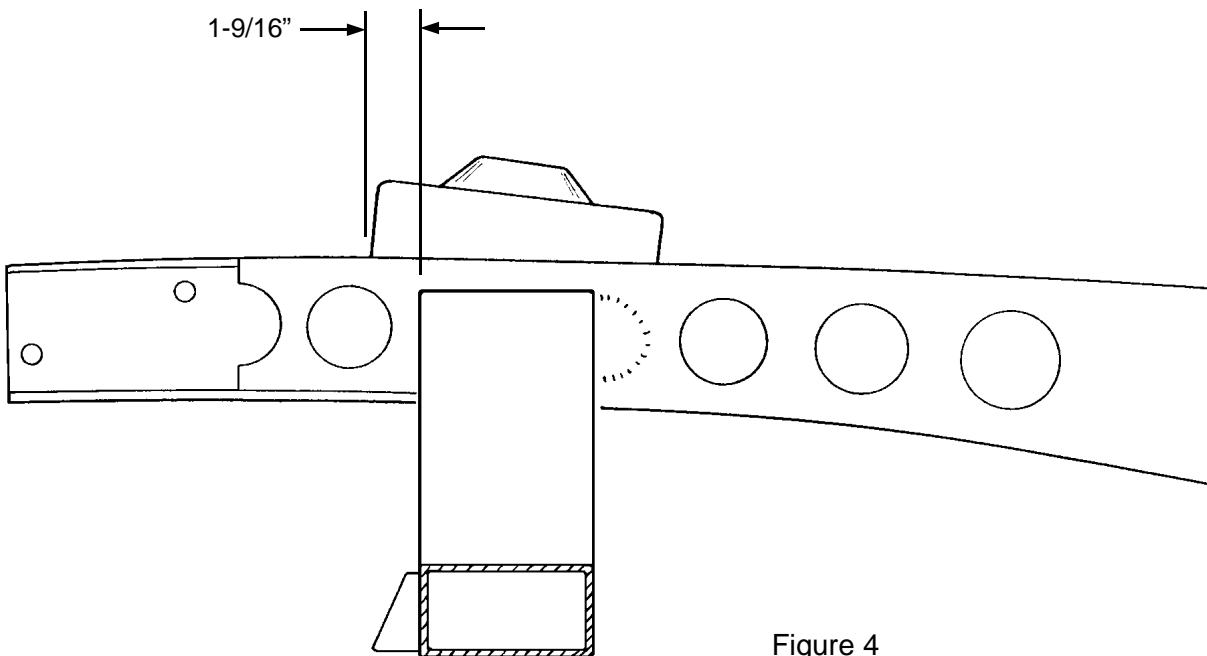

Figure 4
8. Now it is time to install the new crossmember. Slip it into the frame, center it on the scribed axle center line See Figure 4. If it does not fit, grind the sides of the crossmember until you can get the crossmember in place, as shown. Tack weld in place, check location, then weld in place, welding all around both ends, top, sides, and bottom. If you installed a temporary brace across the rails, you can now remove it.